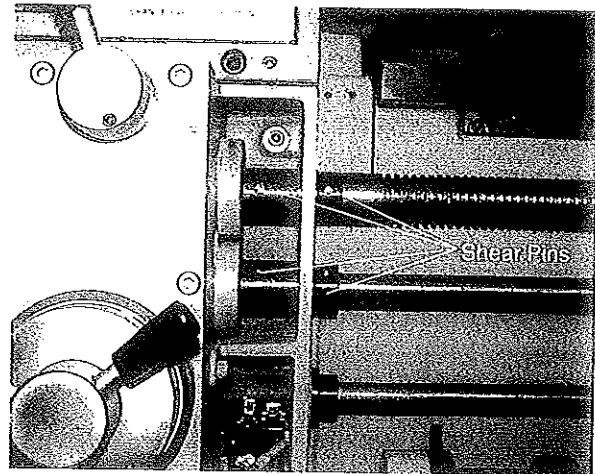

Figure 4
1. Remove dowel pins from lead screw and feed shaft (**Figure 4**)